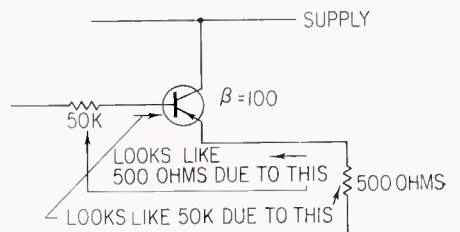

Figure 3. The basic properties of an emitter follower, which are far more versatile than the cathode follower ever was.
**Figure 3. The racks in control room A. Metrotech logging recorders are on the left, f.m. automation Scully recorders are in the center, and a cartridge Carousal for the automatic insert of commercials and station i.d. are on the right.**
It also means (FIGURE 3) that the a.-c. at the base is approximately the a.c. delivered by the emitter, divided by beta, and that the a.c. delivered by the emitter is beta times the a.c. fed to the base.